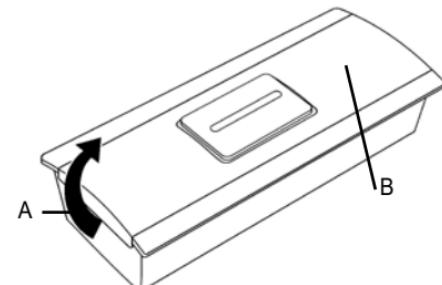

Figure 1: Call-pushbutton
- a) Remove the transparent front by lifting it off its clip on one side of the housing (fig. 1 A). If necessary, use a small flatsided screwdriver to assist.
- c) You can now open the small screw (fig. 1 B) using a small Phillips screwdriver and remove the front of the call-push-button behind which the PCB with the battery is located.
- g) Carefully set the small screw (fig. 1 B) with a small Phillips screwdriver.